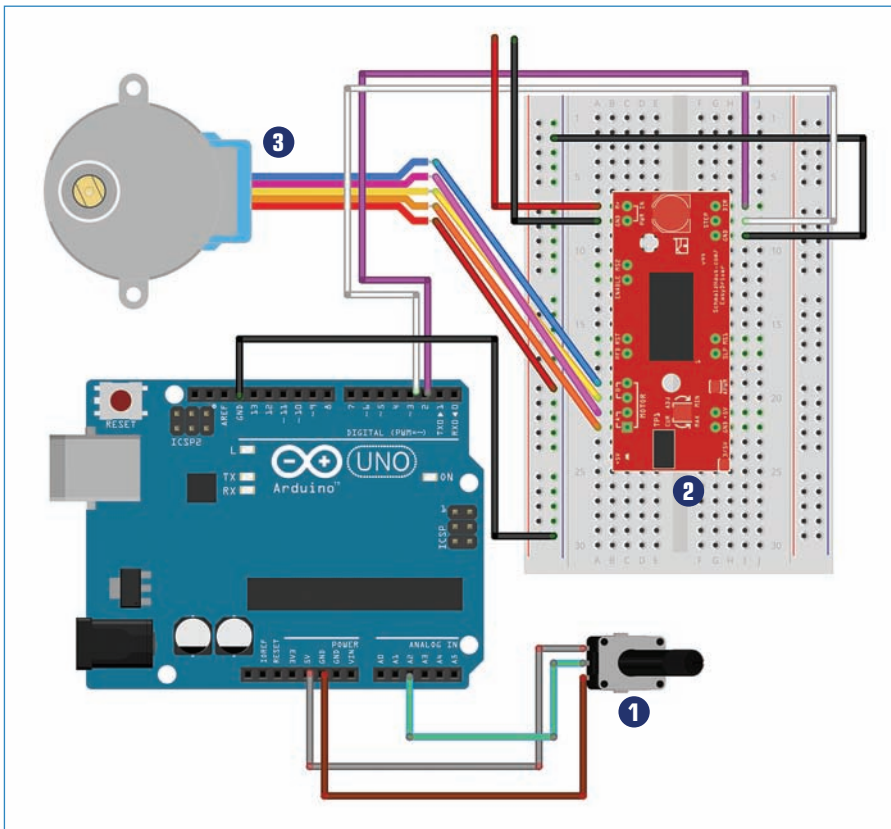

FIGURE 13.8 Wire up the project as you see here.
This project consists of a surprising number of connections, but just follow along with Figure 13.8.
- 2 Plug in your EasyDriver to a breadboard. Connect it to the Arduino with two jumpers, marked as white and purple in Figure 13.8. The white wire connects the pin marked “STEP” on the PCB to pin 3 on the Arduino. The purple wire connects from the pin marked “DIR” on the PCB to pin 2 on the Arduino. The pin marked GND on the EasyDriver plugs into the ground bus.
the four pins labeled “MOTOR” on the EasyDriver PCB. However, it’s a little tricky. You can’t just plug them in in the same order the yellow and pink wires need to be swapped, as marked in Figure 13.8.
- 4 Finally, add the stepper’s 12V power supply. It plugs into two pins marked “PWR IN,” and I used red and black wires in Figure 13.8 to show where they go. Also, don’t forget to connect the breadboard’s ground bus to an Arduino GND pin. You’re finished!